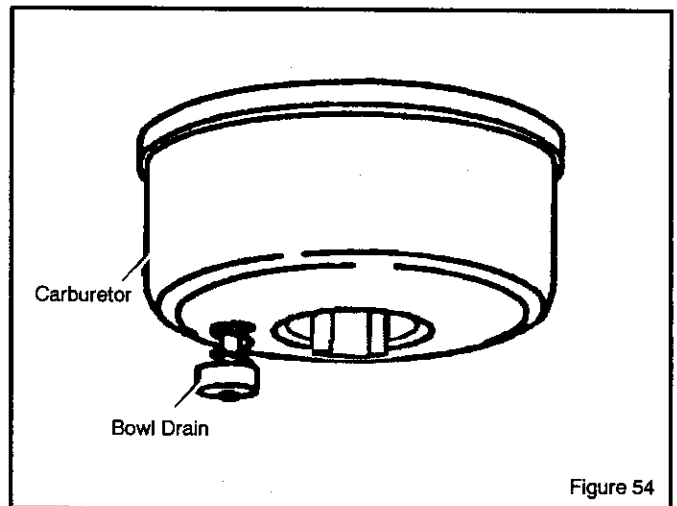

Figure 54
1. To remove gasoline, run engine until tank is empty and engine stops. Then drain remaining gasoline from carburetor by pressing upward on bowl drain located on the bottom of carburetor (see Figure 54).